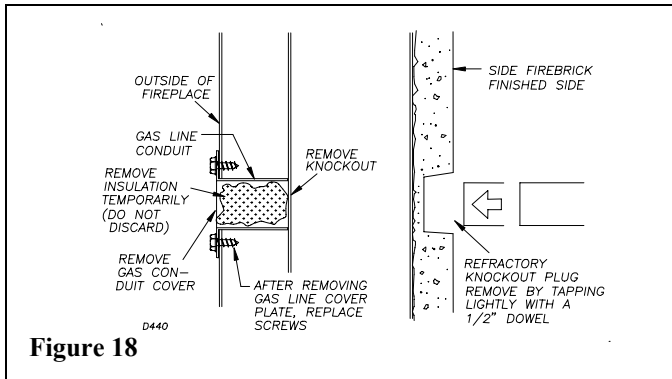

Figure 18
STEP 1: To install, remove the knockout indentation on the refractory, (or firebrick), wall located approximately 2 inches above the refractory hearth floor. The knockout indentation must be firmly tapped with any solid object until it is released. Remove fragmented portions of refractory (see figure 18).